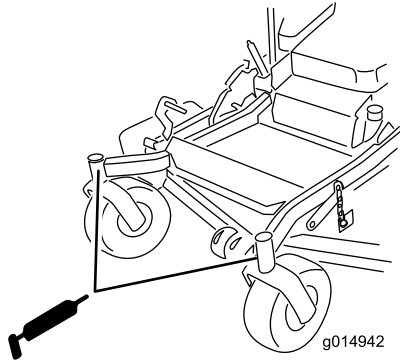

Figure 41
9. Remove the grease zerk in the hole. Install the hex plug and dust cap (Figure 41).